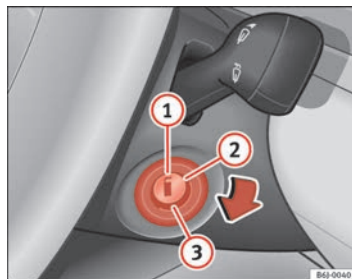

Fig. 104 Ignition key positions
In this position ⇒ page 136, fig. 104 the ignition and the engine are OFF and the steering may get locked.
- Turn the ignition key to position ⇒ page 136, fig. 104 ②. The indicator lamp  will light for engine pre-heating.
- When the warning lamp turns off, turn the key to position ③ to start the engine. Do not press the accelerator.
- Turn the ignition key to position ⇒ page 136, fig. 104 ①.